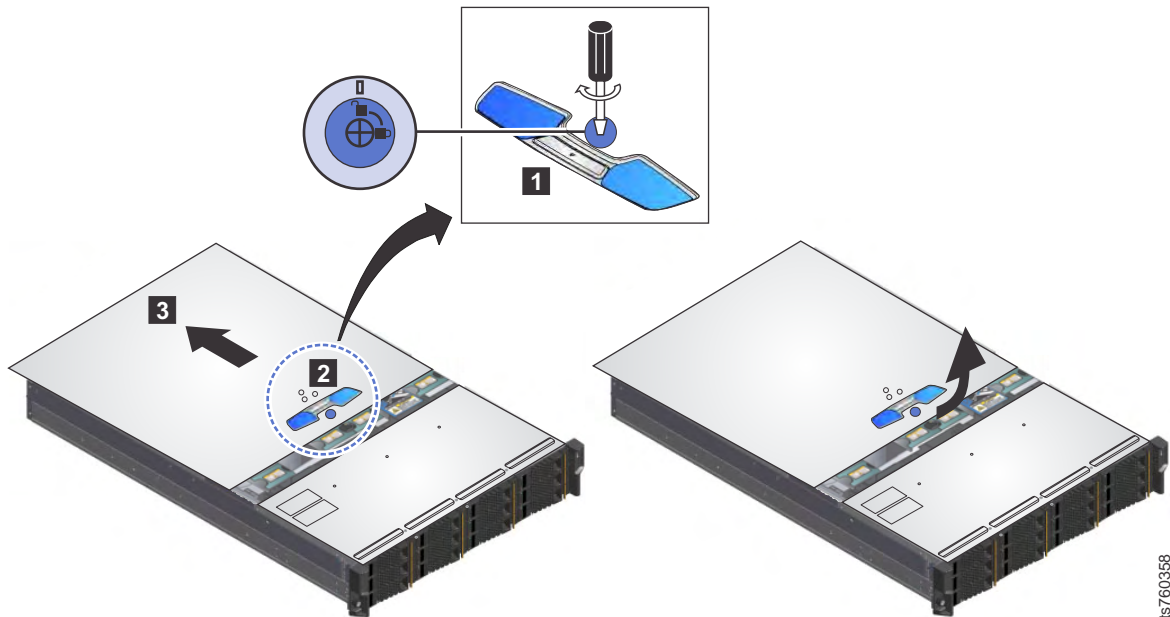

Figure 42. Remove chassis cover
3. Refer to Figure 42. Loosen the cover's **1** holding screw 1/4 turn clockwise. Press the silver button **2** and **3** slide the cover back and up to remove it.